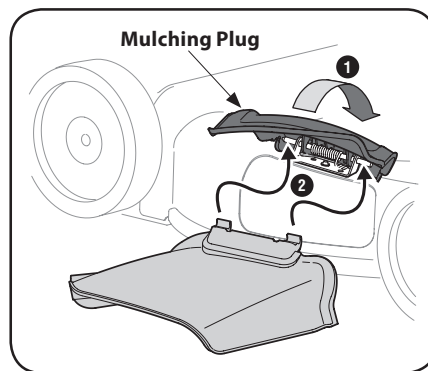

Figure 2-9
1. On the side of the mower, lift the mulch plug. See Figure 2-9.